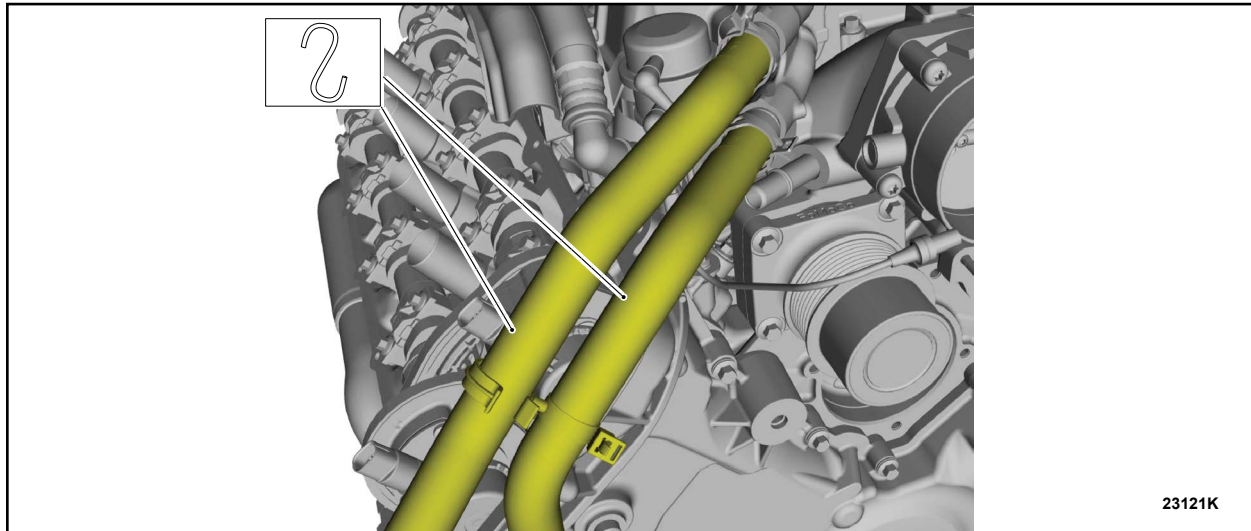

FIGURE 45
28. Position back the coolant hoses See Figure 45.